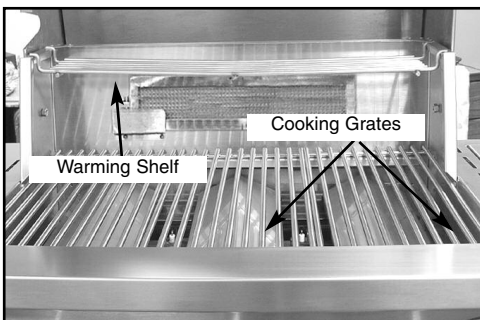

Fig. 19
2. Install cooking grates on the ledges provided on the grill to create your cooking surface. (See Fig. 19)